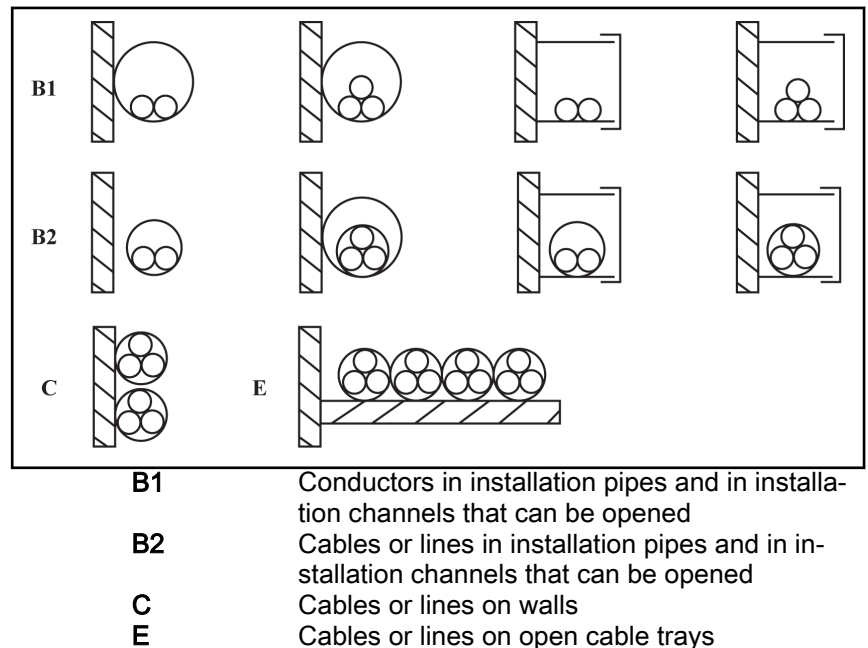

Fig. 5-11: Cable installation types (cf. IEC 60364-5-52; DIN VDE 0298-4; EN 60204-1)
3. For "Installation mode", see fig. 5-11 "Cable installation types \(cf. IEC 60364-5-52; DIN VDE 0298-4; EN 60204-1\)" on page 49.